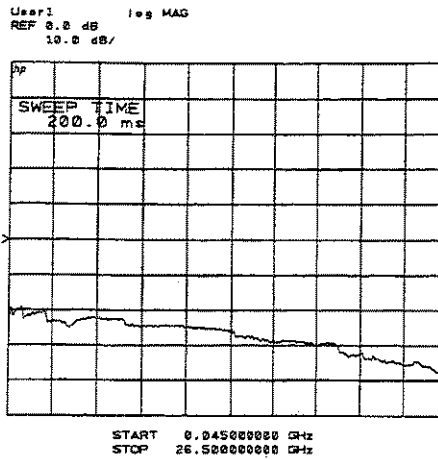

Figure 8. Typical Operator's Check CRT Trace
- b. HP 8350B systems: press **[SWEEP TIME] [2] [0] [0] [k/m]** to set the sweep time to 200 ms. In narrow band systems, the level of the frequency band generated should match the levels shown in Figure 8 for a given frequency.
NOTE: All of the observed traces should decrease from -20 ± 5 dB at 45 MHz to -40 ± 5 dB at 26.5 MHz, similar to Figure 8.
3. Press **[User 1 a1], [User 2 b2], [User 3 a2],** and **[User 4 b1]** to check the channels indicated. All of the CRT traces should resemble Figure 8.